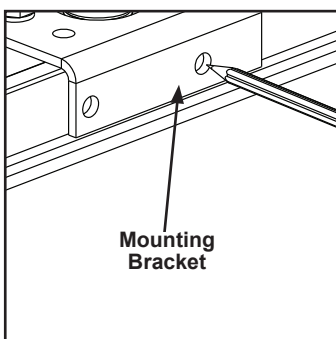
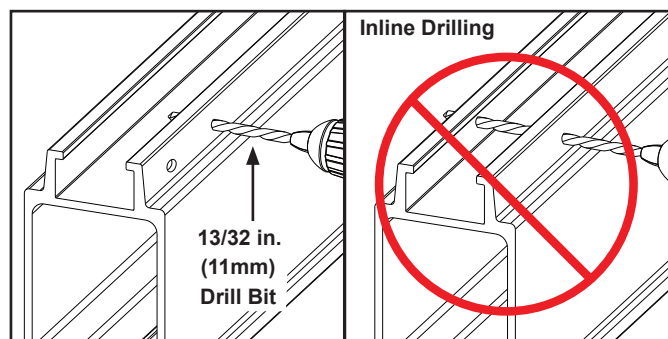

Figure 3-60
Figure 3-61
- Step 1. Use rail mounting bracket as template to mark rail and drill two (2) holes using 13/32 in (11 mm) drill bit. Do not attempt to drill holes in-line. See Figure 3-60 and Figure 3-61.